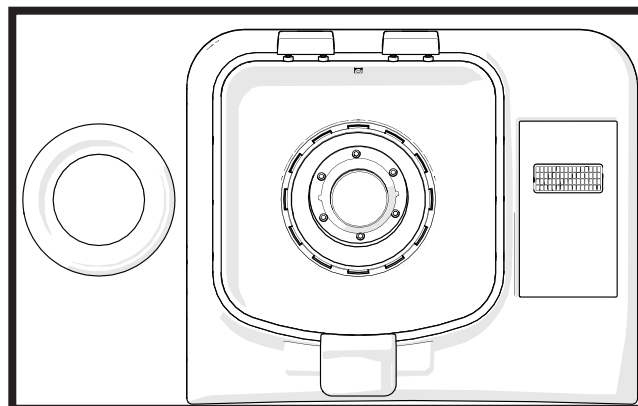

Figure 4
1. Remove the neck gasket (Figure 4). Gently stretch the neck gasket to bring it over the carousel.